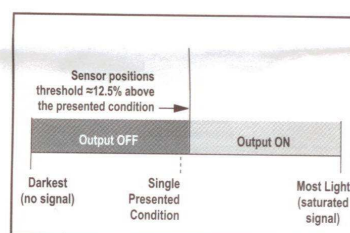

Figure 6. Dark SET (Light Operate shown)
- Sets a threshold approximately 12.5% above the presented sensing condition (see Figure 6).